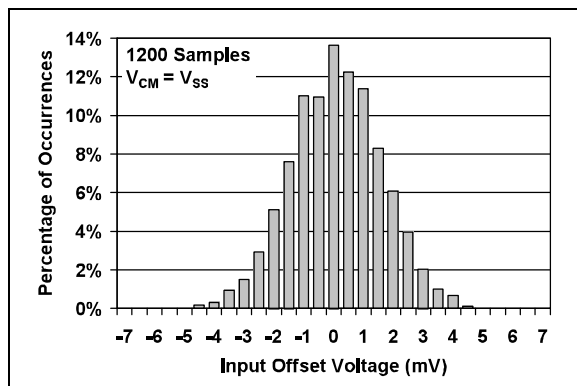

**FIGURE 1-3:** AC and DC Test Circuit for the Push-Pull Output Comparators.
**Electrical Specifications:** Unless otherwise indicated,  $V_{DD} = +1.6V$  to  $+5.5V$ ,  $V_{SS} = GND$ ,  $T_A = +25^{\circ}C$ ,  $V_{IN+} = V_{DD}/2$ ,  $V_{IN-} = V_{SS}$ , and  $R_L = 100$  k $\Omega$  to  $V_{DD}/2$  (Refer to Figure 1-3).
**Electrical Specifications:** Unless otherwise indicated,  $V_{DD} = +1.6V$  to  $+5.5V$ ,  $V_{SS} = GND$ ,  $T_A = +25^\circ C$ ,  $V_{IN+} = V_{DD}/2$ ,  $V_{IN-} = V_{SS}$ , and  $R_L = 100\text{ k}\Omega$  to  $V_{DD}/2$  (Refer to Figure 1-3).
**Electrical Specifications:** Unless otherwise indicated,  $V_{DD} = +1.6V$  to  $+5.5V$ ,  $V_{SS} = GND$ ,  $T_A = +25^\circ C$ ,  $V_{IN+} = V_{DD}/2$ , Step = 200 mV, Overdrive = 100 mV, and  $C_L = 36\text{ pF}$  (Refer to Figure 1-2 and Figure 1-3).